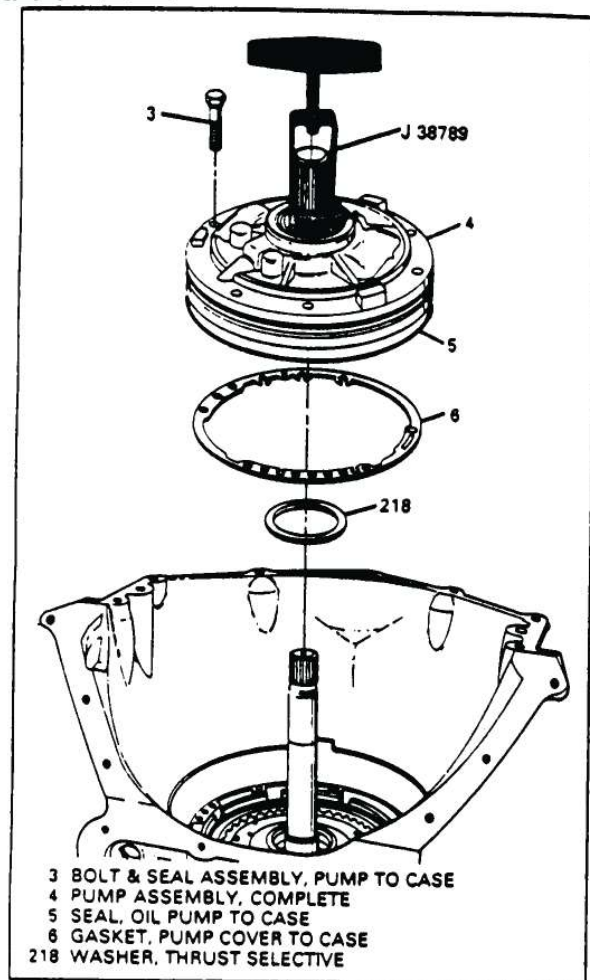

Figure 47
2. Remove seven 13mm pump retaining bolts and "O" rings (See Figure 47).
6. Remove the oil pump assembly from the transmission (See Figure 47).
8. Remove the selective thrust washer (218), as shown in Figure 47.